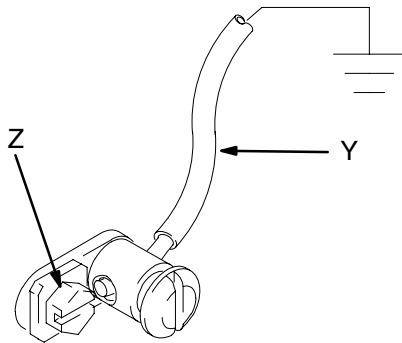

Fig. 1
- *Pump:* Use a ground wire and clamp as shown in Fig. 1. Remove the ground screw (Z) and insert through the eye of the ring terminal at end of ground wire (Y). Fasten the ground screw back onto the pump and tighten securely. *To order a ground wire and clamp, order part number 222011.*